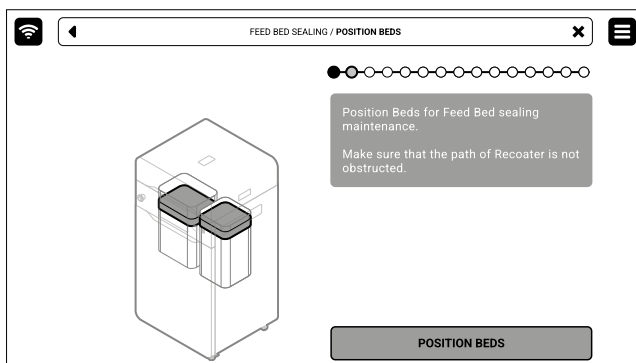

Fig. 12.31. **POSITIONING BED** screen.
7. Press **POSITION BEDS** to begin the positioning process of the Beds (fig. 12.31).